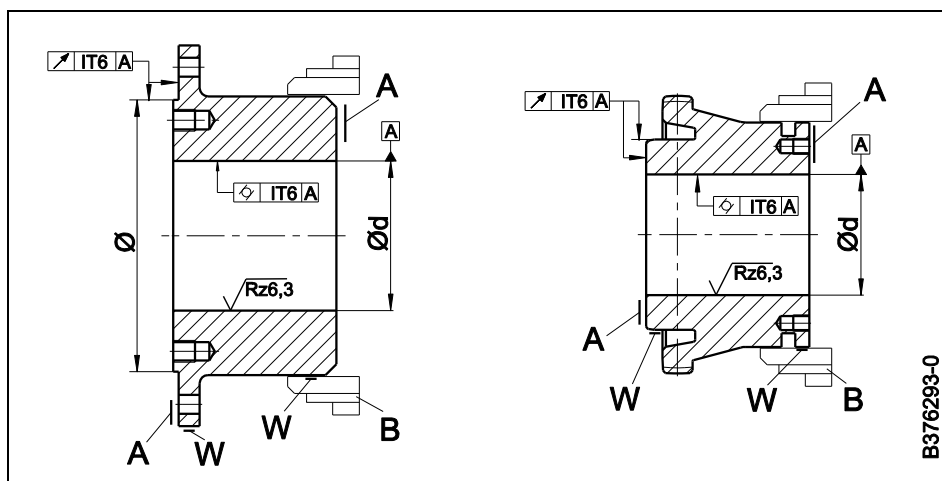

Fig. 2: Drilling out the pre-drilled coupling
- Clamp the hubs or flanges into the processing machine at the surfaces (B) marked in Fig. 2 and carefully align them.
- When drilling out, adhere to the permissible concentricity and axial run-out tolerances specified in Fig. 2.